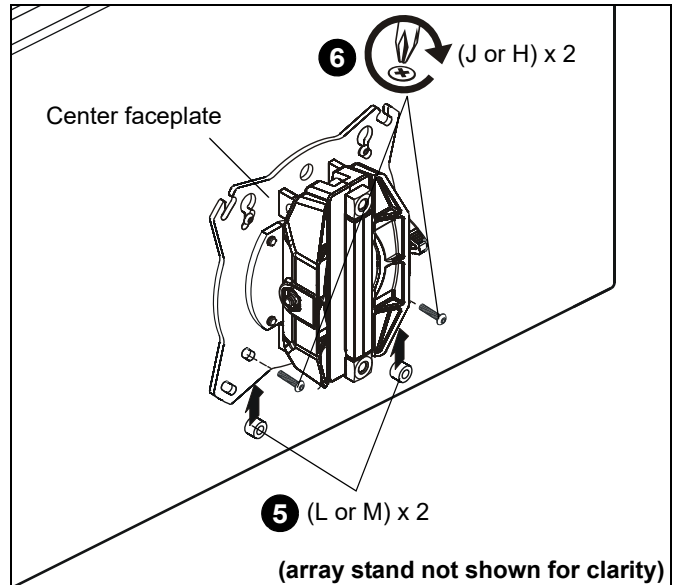

Figure 19
5. Slide two remaining selected spacers (L or M) in between faceplate and display, positioning them over the *lower* two mounting holes. (See Figure 19)
6. Install two remaining selected screws (J or H) through *lower* two mounting holes on faceplate, selected spacers (L or M) into the *lower* mounting holes on the display. (See Figure 19)